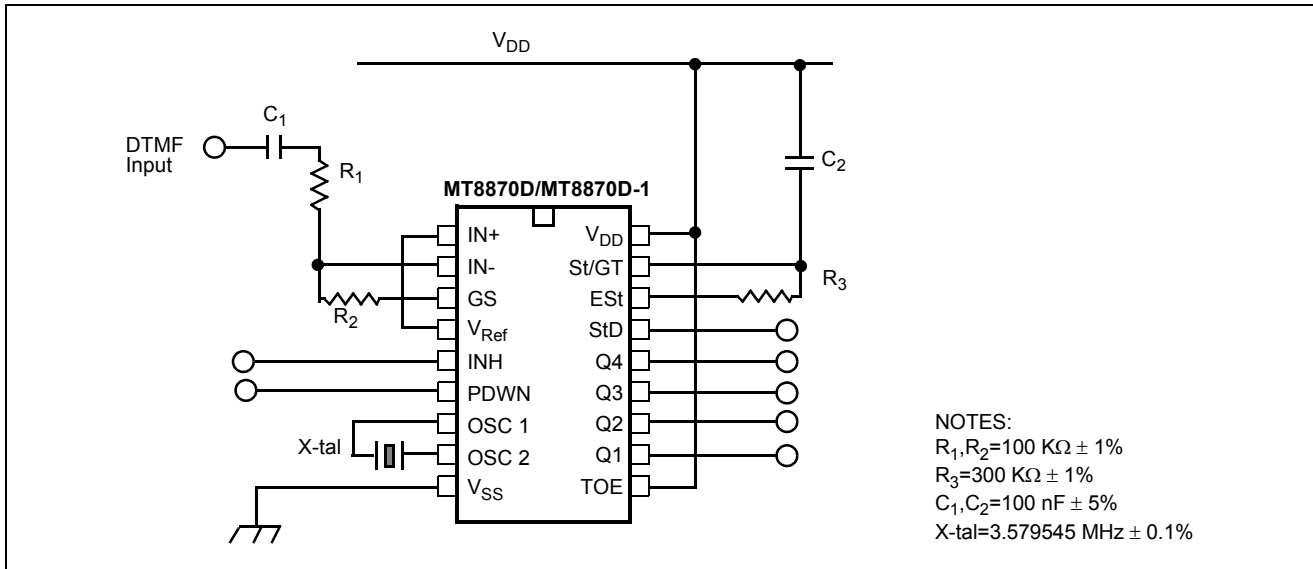

Figure 10 - Single-Ended Input Configuration
MT8870D AC Electrical Characteristics - $V_{DD}=5.0V \pm 5\%$, $V_{SS}=0V$, $-40^{\circ}C \leq T_O \leq +85^{\circ}C$, using Test Circuit shown in Figure 10.
MT8870D-1 AC Electrical Characteristics $-V_{DD}=5.0V\pm 5\%$, $V_{SS}=0V$, $-40^{\circ}C \leq T_O \leq +85^{\circ}C$, using Test Circuit shown in Figure 10.
12. Referenced to Fig. 10 input DTMF tone level at -25dBm (-28dBm at GS Pin) interference frequency range between 480-3400Hz.
AC Electrical Characteristics - $V_{DD}=5.0V\pm 5\%$, $V_{SS}=0V$, $-40^{\circ}C \leq T_o \leq +85^{\circ}C$, using Test Circuit shown in Figure 10.